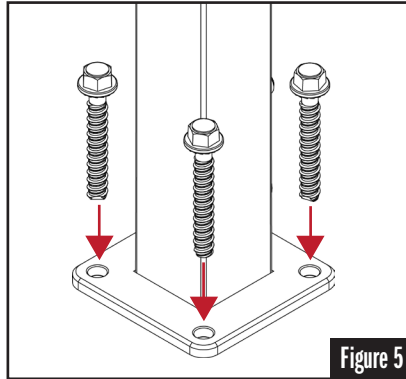

Figure 5
- Secure both posts with 1/2" Concrete Anchor Screws (Part E). See Figure 5.